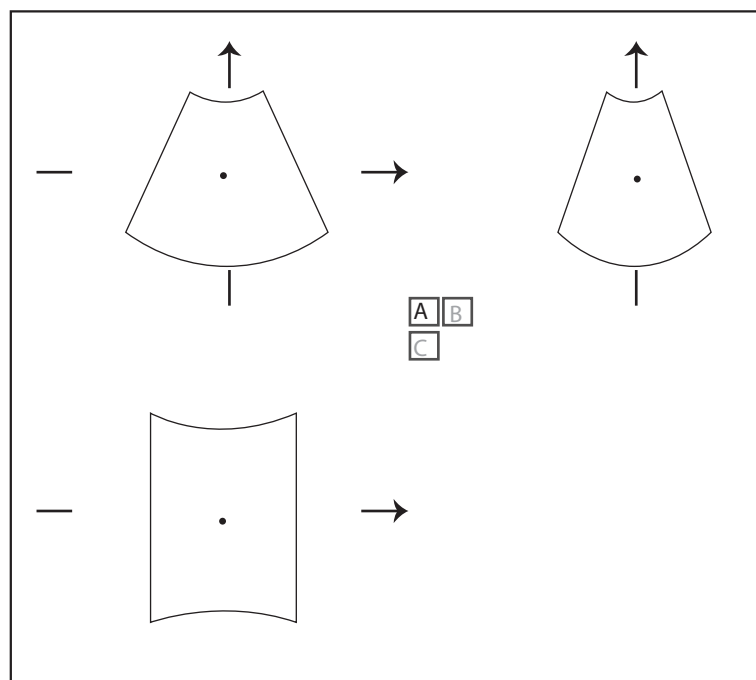

Figure 9-5 C-Plane Image Screen
1. Tap **C-Plane** to enable this feature as shown in Figure 9-5.